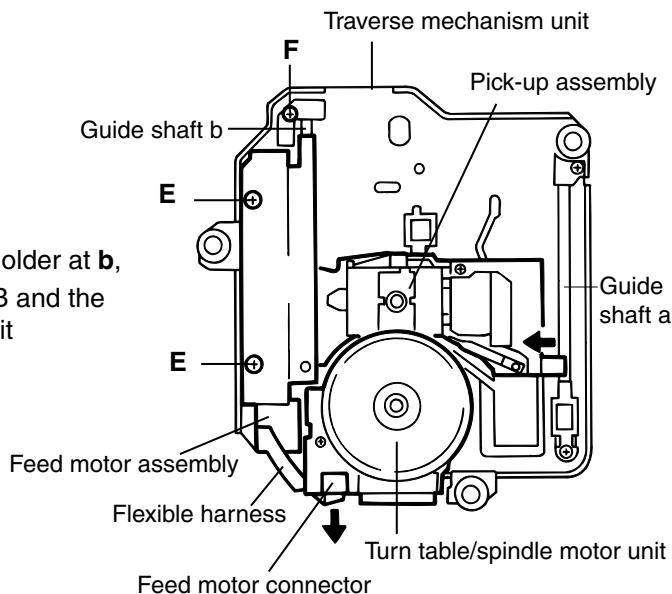

Fig.9
■ **Removing the feed motor unit** (See Fig.9)
■ **Removing the optical pickup unit** (See Fig.9)